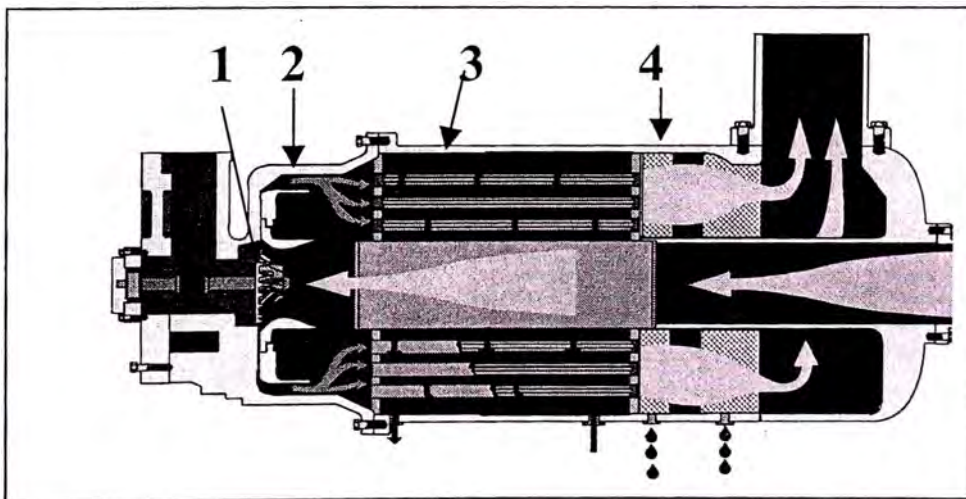

Figure 1
The Centac compressor is a dynamic centrifugal type compressor. As we can see in Figure 1, air enters the compressor through the machine mounted inlet control valve and flows to the first stage where the impeller (1) imparts velocity to the air. The air proceeds through the stationary diffuser section (2) that converts velocity to pressure. The built-in intercooler (3) removes the heat of compression, which improves efficiency. Air then passes through a stainless steel moisture separator (4) in a low velocity zone to remove condensate. Entrained moisture in the air is reduced when the air is forced through stainless steel moisture separators. This sequence repeats in each succeeding stage until the compressor achieves the desired operating pressure.